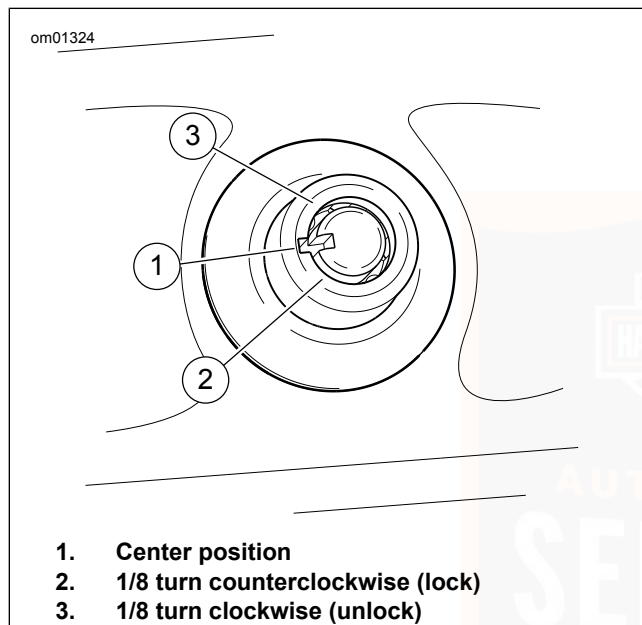

Figure 56. Trunk Lock: FLHTCUTG
1. See Figure 56. To unlock trunk, insert key into barrel lock and turn one-eighth turn clockwise. Return key to center position and remove.